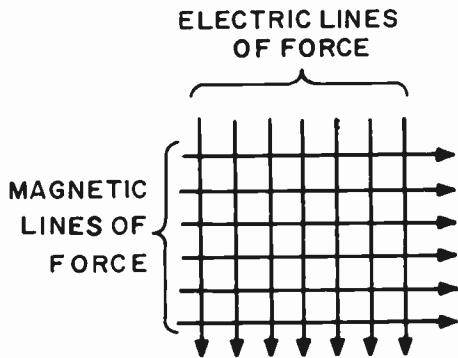

FIG. 17-4. FIELDS OF A RADIATED WAVE.
**PRINCIPLES OF RADIATION.** The currents flowing in the antenna create an electromagnetic field which is pushed out from the antenna and into space. The radiated wave consists of a magnetic field and an electrostatic field whose planes are at right angles to each other. Both fields are at right angles to the direction in which the wave is traveling. This is illustrated in Fig. 17-4. The direction of the radiated wave is away from the reader into the page.
**POLARIZATION OF RADIO WAVES.** It has been pointed out that a radio wave consists of both an electric field and a magnetic field. This is shown in Fig. 17-4. One part of the wave cannot exist without the other. They both constitute the wave that is radiated from an antenna.
The direction of the electric lines of force determines the "polarization" of the radio wave. If the electric lines of force are vertical (as in Fig. 17-4), we say that this particular radio wave is vertically polarized. If the electric lines of force are in a horizontal direction (parallel to the earth), the radio wave is horizontally polarized. A vertical antenna will produce vertically polarized radio waves and a horizontal antenna will produce horizontally polarized radio waves. A horizontal receiving antenna will receive both horizontally and vertically polarized radio waves. However, a much stronger signal will be present at the input to the receiver for a horizontally polarized wave. By the same token, a vertical receiving antenna will favor a vertically polarized wave over a horizontally polarized one.